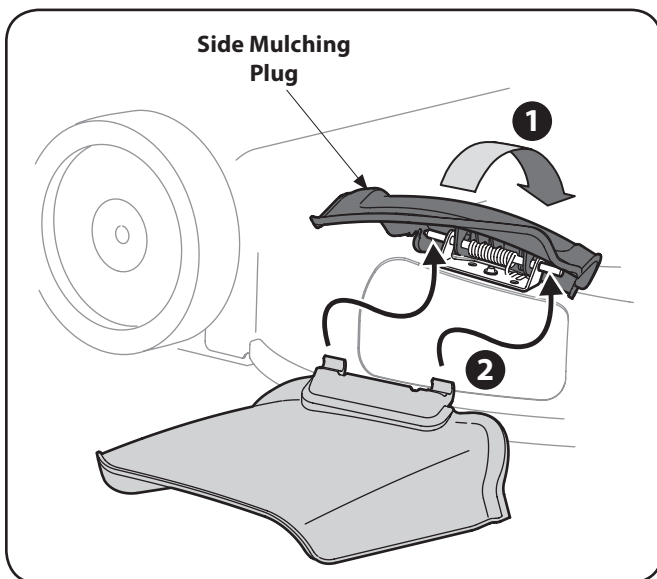

Figure 3-9
1. On the side of the mower, lift the side mulching plug. See Figure 3-9.